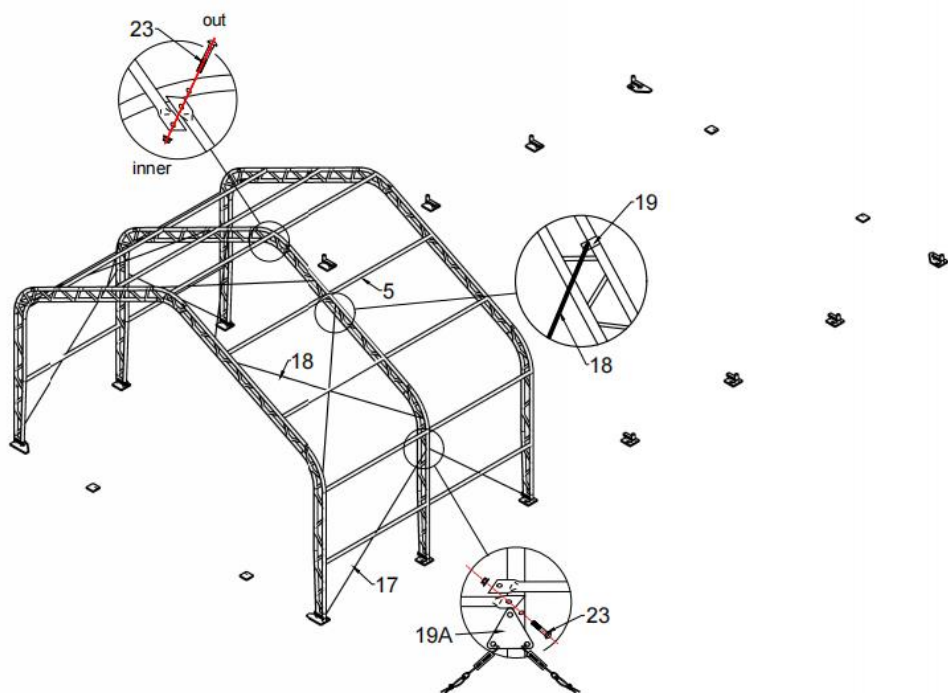

Figure 6
2. Connect purlin (No.5) to arch by using carriage bolt 10x90mm (No.23) by turns (see Figure 6), then connect the steel wire (No.17 and No.18) on top and side by using clip (No.19).